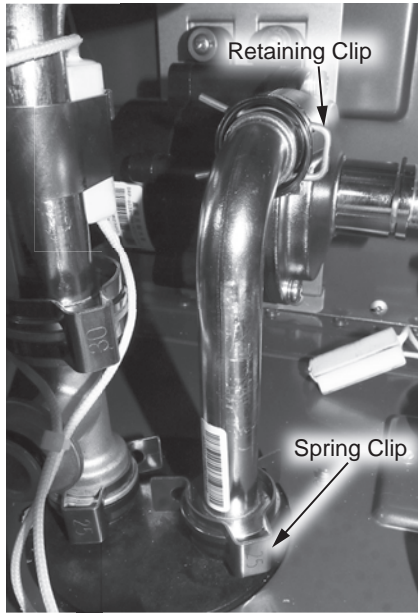

Figure 180 - Pump outlet tube location
- Locate the pump outlet tube. Remove the retaining clip securing tube to water pump. Locate and remove the spring clip (size 25) at the bottom of the pump outlet tube and disconnect tube from water connection and water pump. See Figure 180.